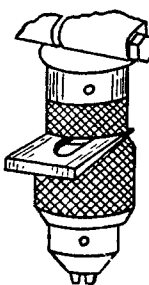

Fig. 4
(4) To Remove Chuck from Spindle:—See Figure 4. Use the wedge provided for this purpose.
In using the various types of mortising bits, router bits, etc., the operator **MUST** use a router bit adapter rather than the Jacobs' chuck. On those drills, equipped with a tapered spindle, it is necessary to remove the Jacobs chuck and the threaded collar immediately above it. To remove Jacobs chuck from spindle, place the steel wedge between the chuck and the knurled collar and strike the wedge a sharp blow with a hammer. (See Fig. 4). The chuck should be caught with the left hand in performing this operation. The adapter is placed on the taper, and the threaded collar is then replaced. There is a small flange on the inner side of this collar which will hold the adapter securely in position on the taper. (See Fig. 2).